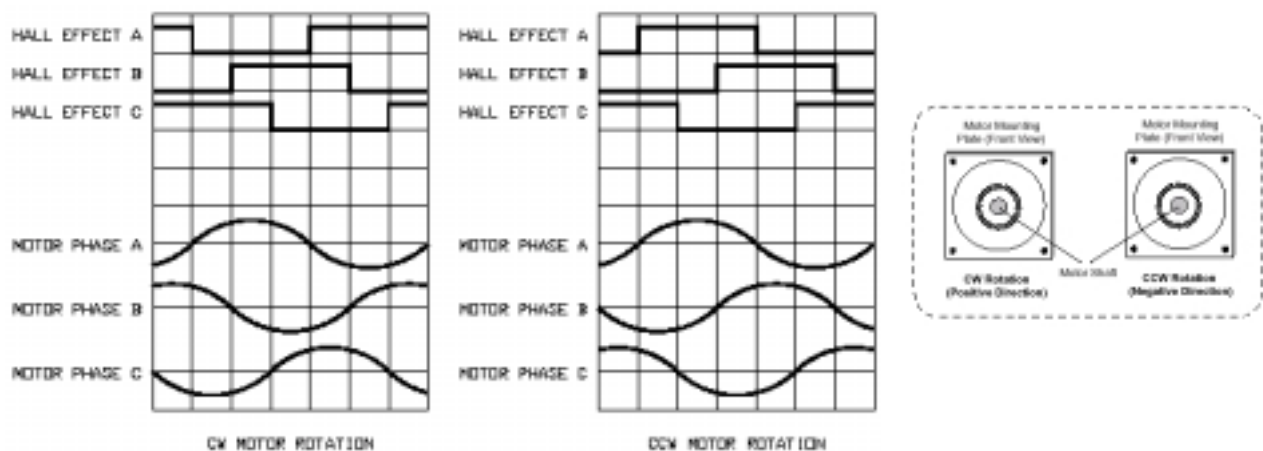

Figure 1-2: Hall Effect and Motor Phasing
Figure 1-2 shows the proper Hall effect to motor phasing for both clockwise (CW) and counterclockwise (CCW) motor rotation (viewed looking into the mounting flange of the motor).
NOTE 📌 **It is necessary for the voltage generated by the motor phase A to be in phase with the signal used as Hall effect A (see *Figure 1-2*).**
Using this procedure, connect the Hall effect signals with the appropriate motor phases as seen in *Figure 1-2*.